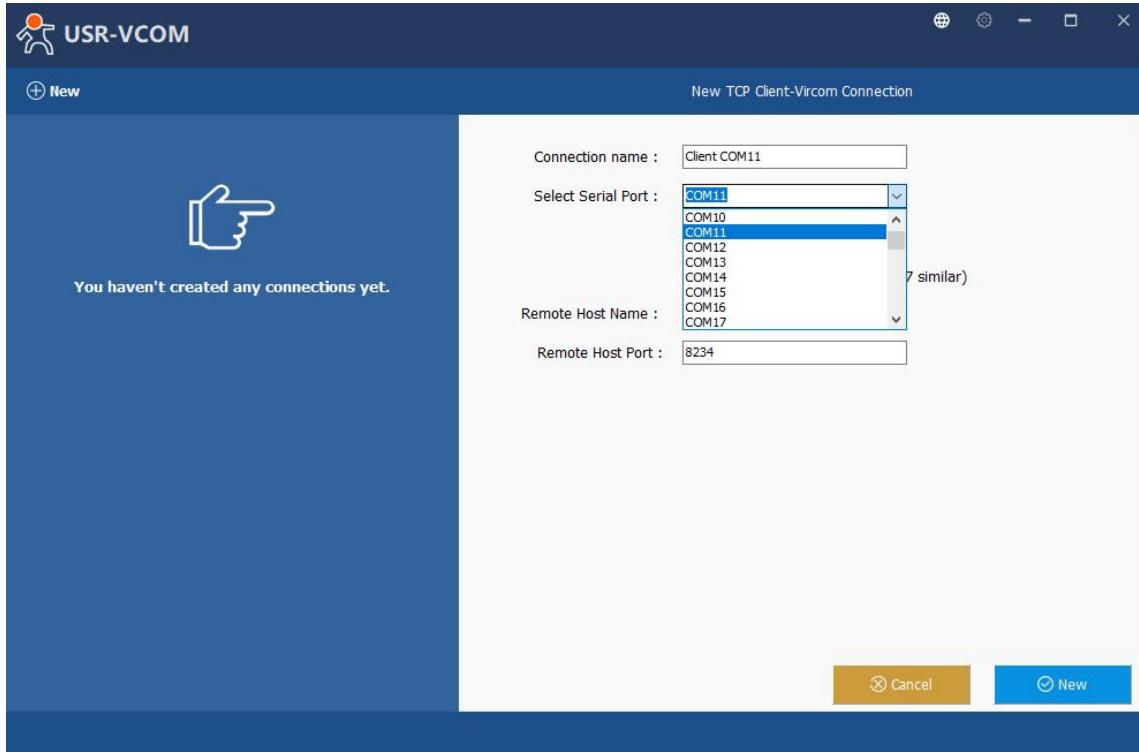

Fig. 71 Select one COM port
2. Select one COM port as the Virtual COM port before proceeding as shown in Fig.71. Note that if a COM port number is used by other application or your operating system, you can not select it.